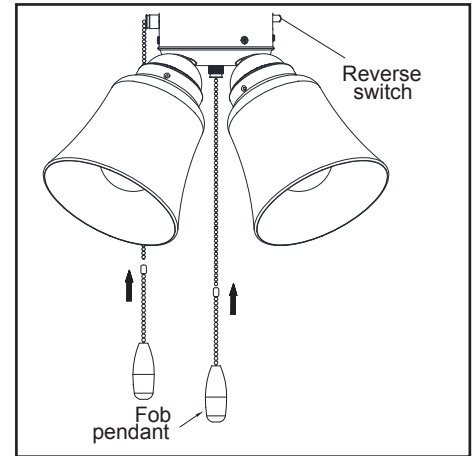

Figure 16
8. Attach the pull chain extensions to the fan switch and light switch pull chains. (Figure 16)
The fan shipped from the factory with the reverse switch positioned to circulate air downward. If airflow is desired in the opposite direction, turn your fan off and wait for the blades to stop turning, then slide the reverse switch (located on the switch housing, refer to figure 16) to opposite position, and turn fan on again. The fan blades will turn in the opposite direction and reverse airflow.